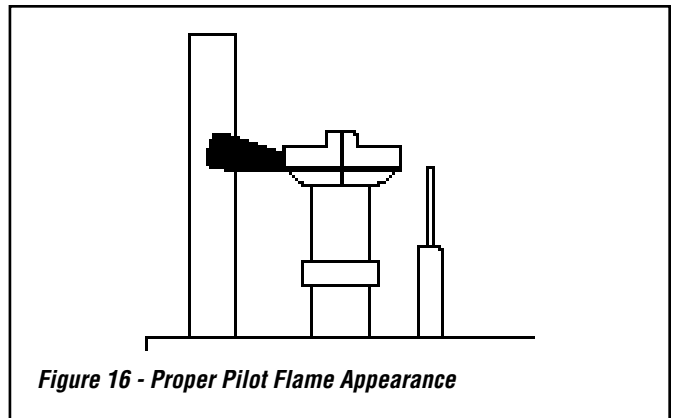

Figure 16 - Proper Pilot Flame Appearance
Step 15. Light the appliance per the lighting instructions label on appliance (located below glass door) or lighting instructions on **Page 14** in the *Installation and Operation Manual*. Inspect for proper pilot and burner flame appearances. See *Flame Color and Behavior on Page 15* and *Inspect The Pilot System For Proper Flame on Page 16* in the *Installation and Operation Manual*. Also see **Figures 16 and 17** on this page.